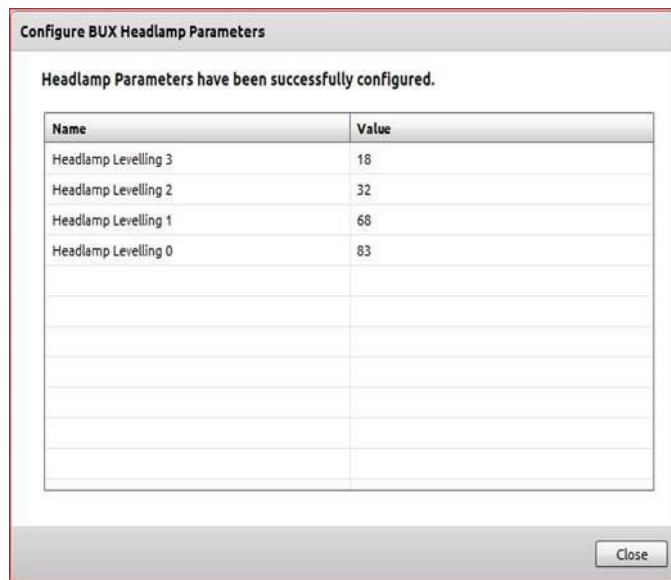

Fig. 3 BUX Headlamp Parameters
3. Connect the wiTECH and go into the "Configure BUX Headlamp Parameters" tab. Follow all pop up messages (Fig. 3).